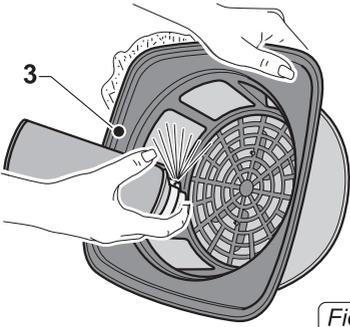

Fig. 17
- Clean the filter (3 Fig. 17) from the inside out with a blast of air; the filter can be washed (3 Fig. 17) in warm water and must only be replaced once it is completely dry. If it is too dirty, replace it.